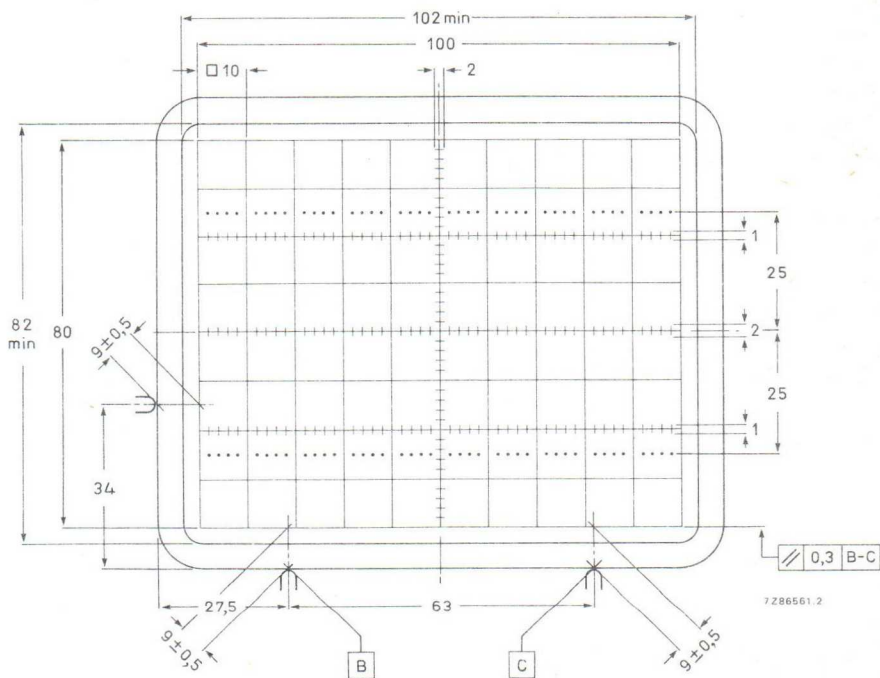

Fig. 5 Front view of tube with internal graticule, type 93. The faceplate reference points are used for aligning the graticule with the faceplate.
4. Reference points on faceplate for graticule alignment (see Fig. 5).
1. As the frit seal is visible through the faceplate, and not necessarily aligned with the internal graticule, application of an external passe-partout with open area of max. 102 mm x 82 mm is recommended. The internal graticule is aligned with the faceplate by using the faceplate reference points (see Fig. 5).